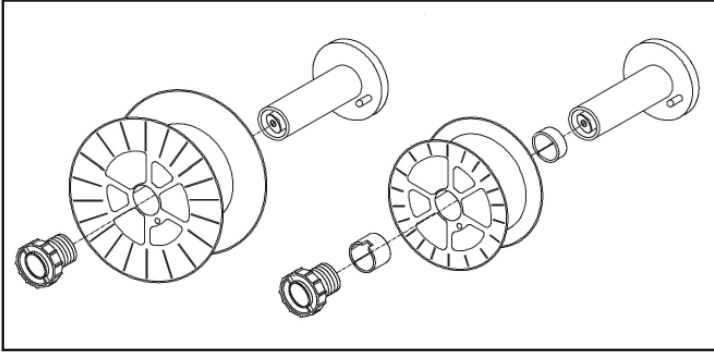

Figure 3 - Spool Assembly
- If required for the type of spool being installed, mount also the spacers as shown in the Figure 3.
**Tighten nut (A) to appropriate tightness. Excessive pressure strains the wire feeding motor. Too little pressure does not allow the proper wire feeding.**